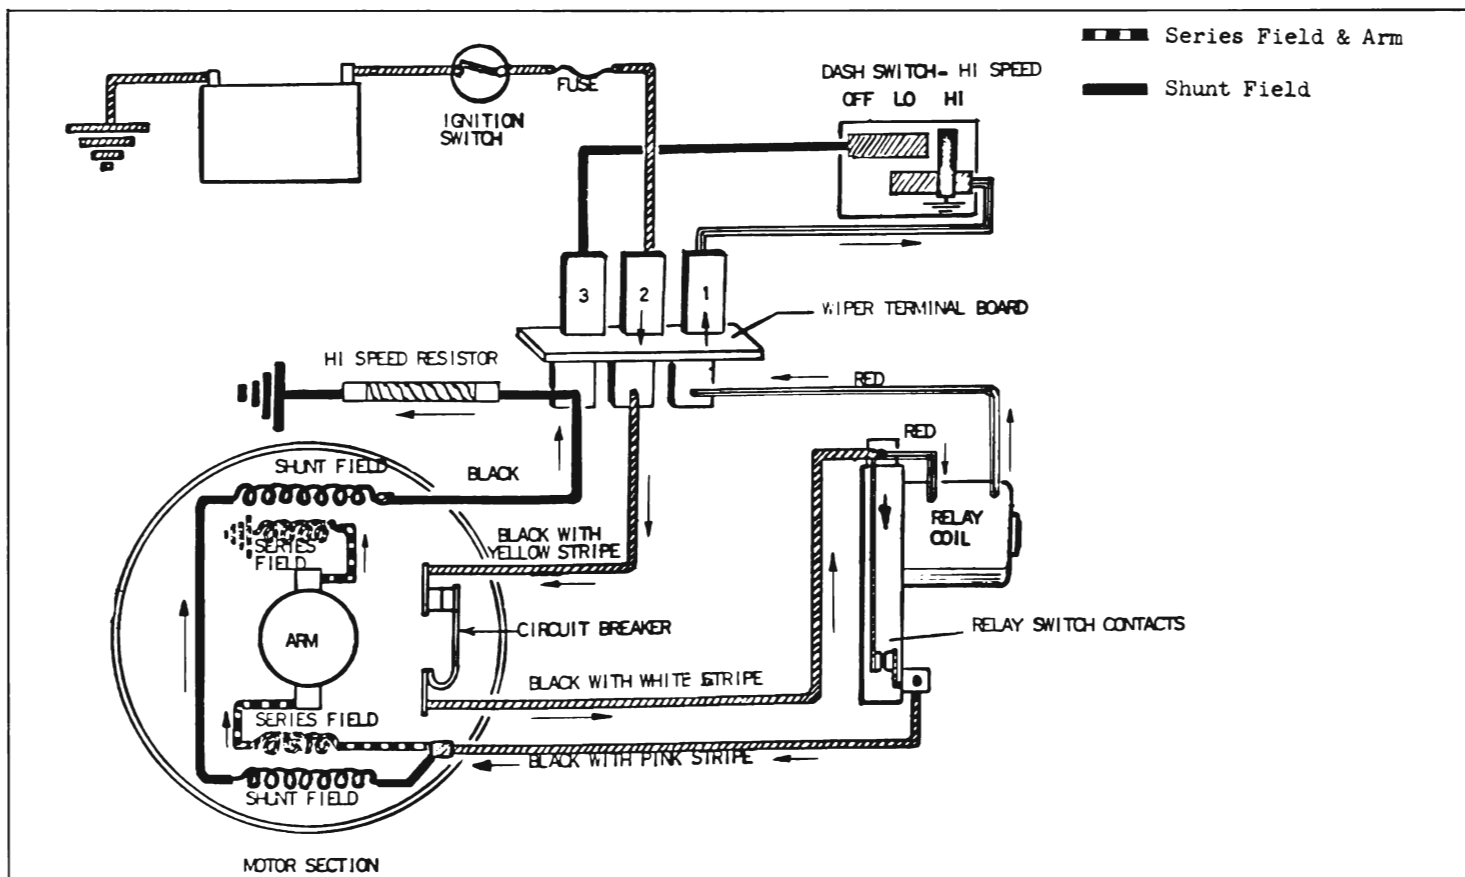

Figure 10-112—Wiring Diagram - High Speed Operation
3. Wiper On High Speed. Turning the wiper dash switch to the high speed position opens the shunt field circuit to ground at the dash switch. However, the shunt field circuit is then completed to ground through the resistor located on the wiper terminal board. See Figure 10-112.